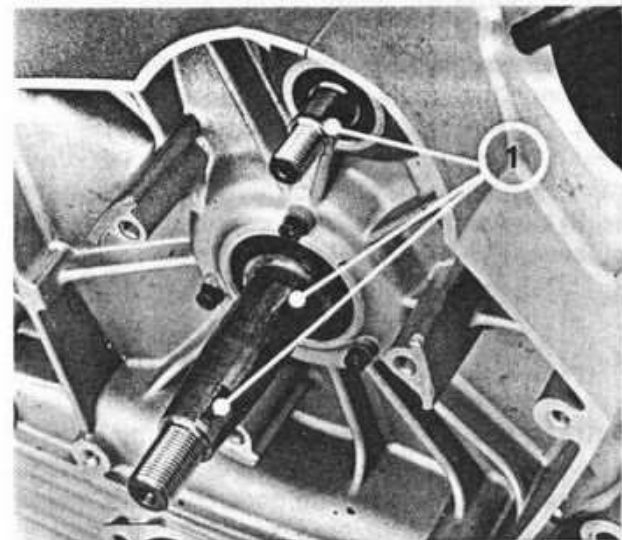

Fig. 117
The Woodruff keys fitted in the crankshaft (2) and in the camshaft (1) ends should be in good condition and firmly installed in their keyways (Fig. 117).